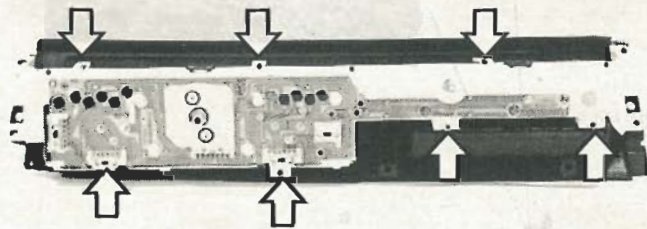

Fig. 11.7 Instrument panel surround securing screws (Sec 31)
- 6 Pull off the trip meter reset knob and the clock adjustment knob, then remove the securing screws shown in Fig. 11.7, and withdraw the instrument panel surround.
25 Remove the securing screws shown in Fig. 11.7, and withdraw the